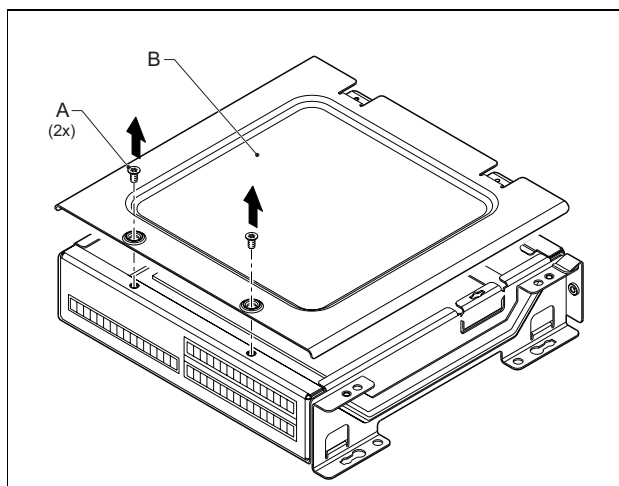

figure 20.8: Module cover removal
- 1 Remove the screws (A) of each module and slide the top cover (B) off (see figure 20.8).